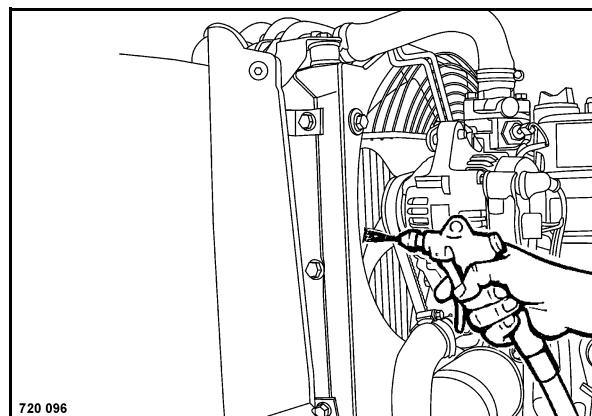

Fig. 103
- Blow the cooler (Fig. 103) out with compressed air from the air discharge side.